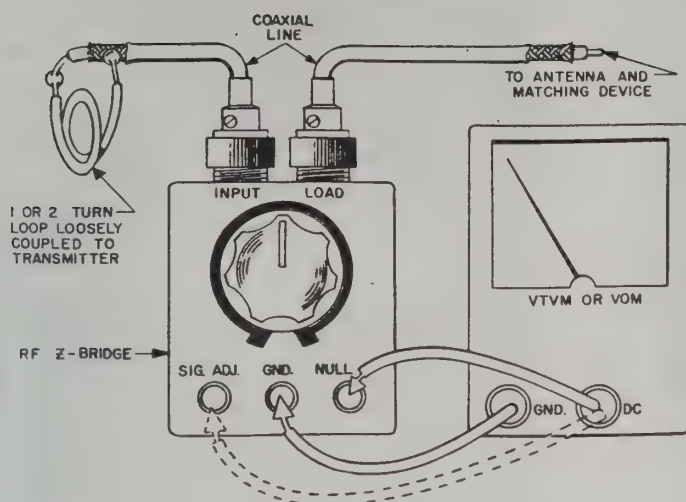

FIGURE 7. TYPICAL SET-UP USING COAXIAL CABLE
5. Loosely couple the INPUT of the Z-Bridge to the transmitter. Only a very low power level is required to operate the Z-Bridge. A one or two-turn loop, on the end of a coaxial feed line placed near the transmitter's tank coil, will give sufficient pick-up to operate the Z-Bridge. See Figure 7. The feed line can be connected directly to a pi-type output circuit. Set the coupling to minimum.
SEE FIGURE 7.